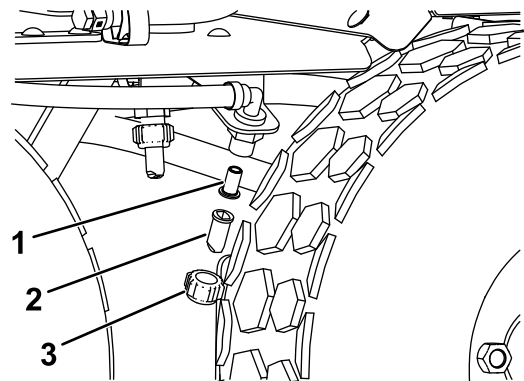

Figure 53
1. Clean the area around the spray nozzle (Figure 53).